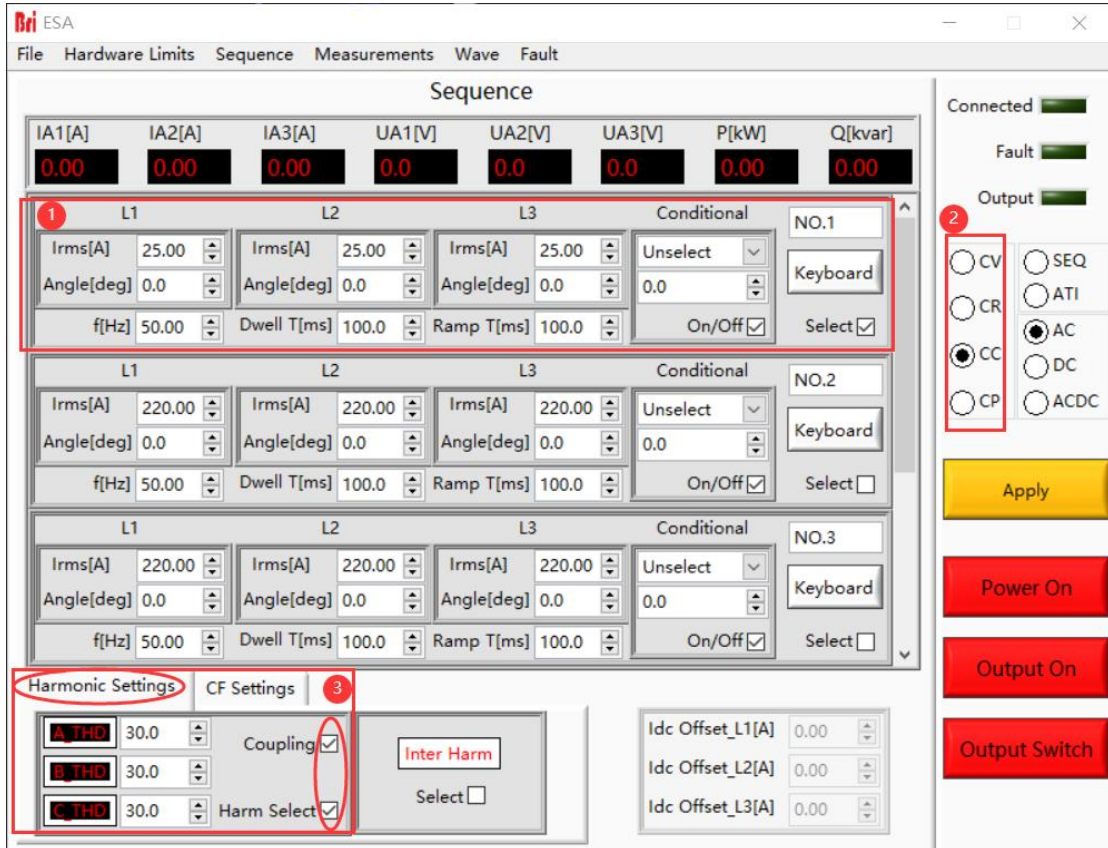

Figure 1
1. Set the CC output mode (Figure 1-②) → set the current rating to 25A/50Hz (Figure 1-①) → select Harmonic Settings → check Coupling and Harm Select
(Figure 1-③) → click . After setting the harmonic order components, click Settings (Figure 2).